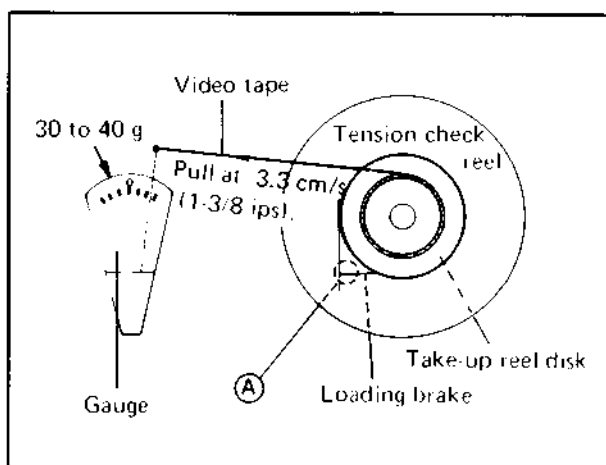

Fig. 4-12
5. Measure the take-up loading tension by pulling the video tape and reading tension gauge as shown in Fig. 4-12. The measured loading tension should be between 30 and 40 grams.